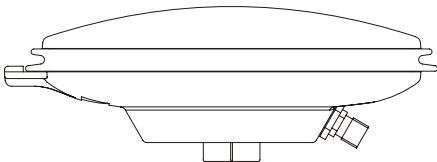

Figure 4: User-Supplied Antenna (702 Example Shown)
- A quality GNSS antenna, such as our GPS-702 (L1/L2), 702GG (plus Glonass) or 702L (plus L-Band), see *Figure 4* for an example